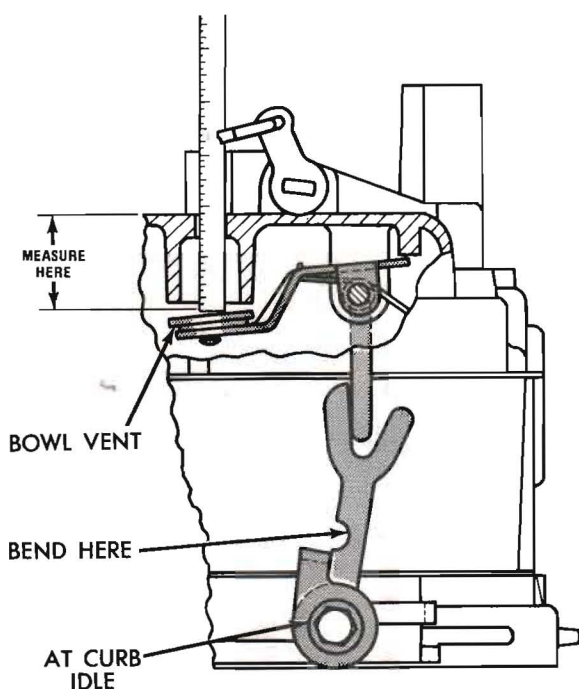

Figure 28. Adjusting Bowl Vent
- (1) Using a suitable tool, remove the bowl vent valve checking hole plug in bowl cover.
- (2) With throttle valves at curb idle, insert a narrow ruler down through hole from which the plug was removed. Allow the ruler to rest lightly on top of the valve. The reading should be as specified for the particular carburetor being serviced, from the top of the valve to top of bowl cover at the opening. (See figure 28.)
- (3) If an adjustment is necessary, bend the bowl vent operating lever at the notch until correct valve opening has been obtained.
- (4) Install a new plug and tap it lightly with a small hammer to seat it in bowl cover.